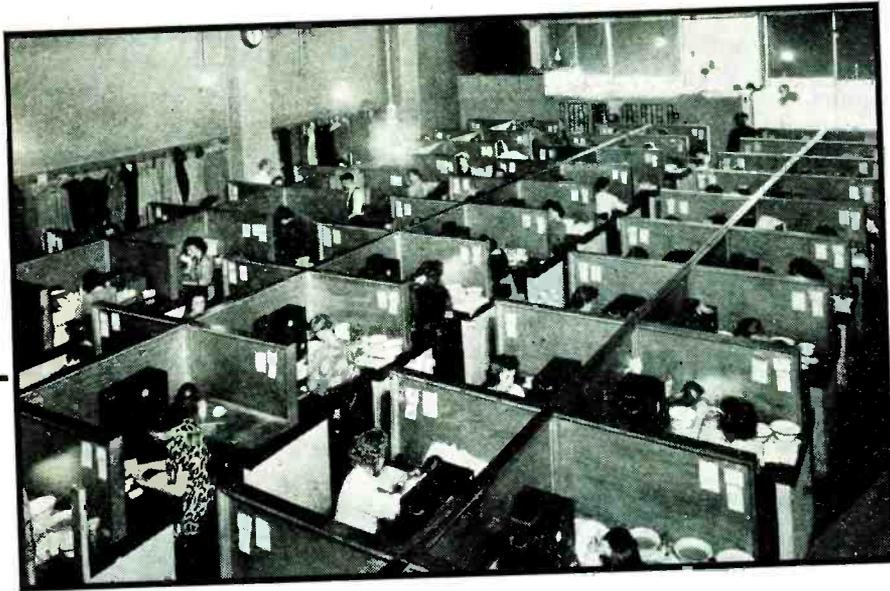

FIG. 2—A portion of the crystal-finishing department in the author's plant
To better picture exactly what happens in this process, let us take a look at Fig. 3. This is similar to Fig. 2 except that we now have  $H_m$  plotted against  $B_m$  instead of against  $B_r$ , as previously. This means that the slope of the straight line of Eq. (2) is multiplied by the factor  $FA_g/A_m$ , and the equation of this line becomes
While there are many hand finishing procedures in use in different plants, common practice is as follows: The finisher is furnished with a work position as shown in Fig. 1. A portion of a finishing department is pictured in Fig. 2. Necessary gear includes frequency-checking equipment, a flat glass plate, fine abrasive (No. 125 optical powder or its equivalent), water, bowls, brush, cleaning solutions, several lint-free towels, a micrometer, an optical flat, and a small square.